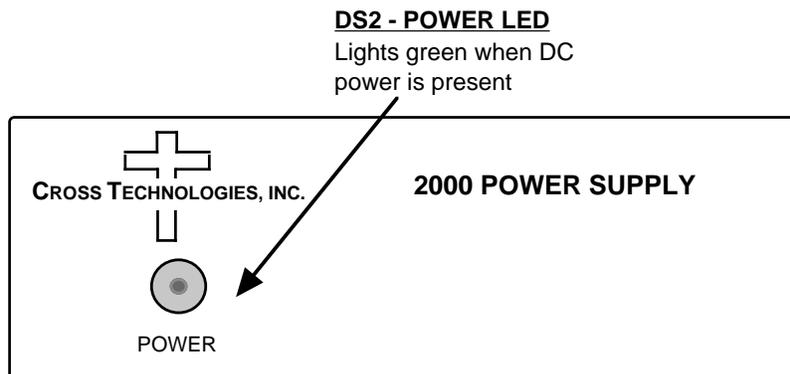

FIGURE 2.3 Front Panel Indicators
6. Be sure DS2 (green, DC Power) is on (Figure 2.3).